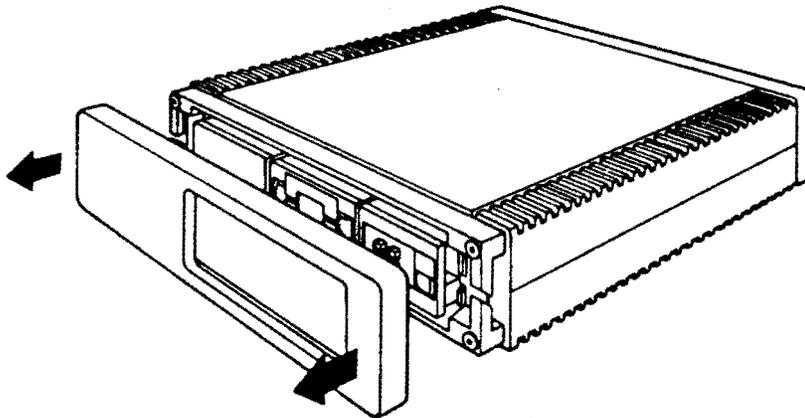

Figure 6-8: Front Cover Removal
4. Remove the system unit front cover, by grasping each end and pulling the cover toward you (Figure 6-8).